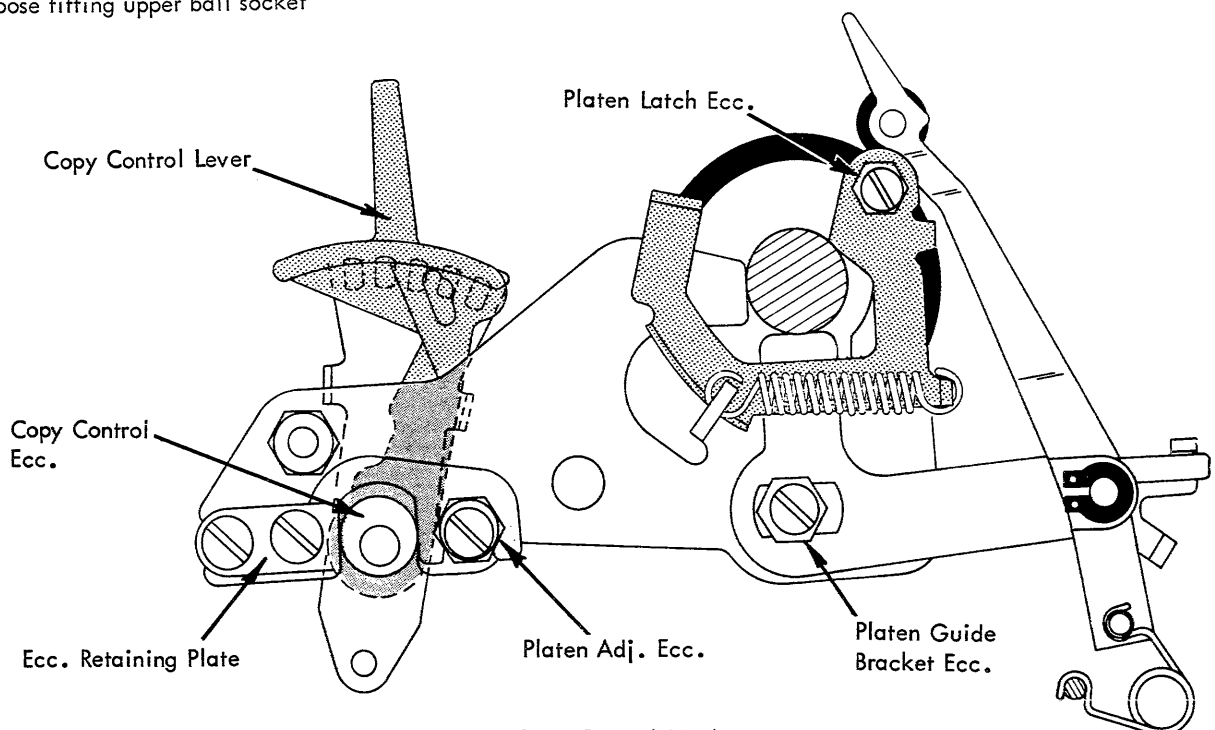
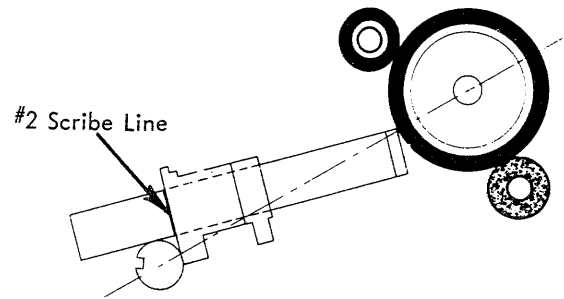

FIGURE 88. Copy Control Mechanism
FIGURE 90. Front to Rear Platen Adjustment
- 1. Copy Control Lever - With the copy control lever detented in the forward position, the high points of the eccentrics should be vertical (Fig. 88). Adjust the copy control lever on the shaft to satisfy this condition.
2. Eccentric Retaining Plates - For maximum efficiency of the copy control eccentrics, adjust the plate on each side of the machine so that no front to rear play exists between the eccentrics and the retaining plates (Fig. 88). Be sure that no binds exist.
3. Platen Latches - Adjust the platen latch eccentrics with the high part down so that the platen is held firmly in position vertically and horizontally (Fig. 88). The latches should latch and unlatch freely with the feed rolls released.
Adjust the platen guide bracket eccentrics to obtain this condition (Fig. 88). The high part of the eccentrics should be kept to the rear. It is necessary to remove the deflector and front feed rolls when checking the adjustment with the Hoovermeter.
- b. Platen Front to Rear - With the head of the Hoovermeter set at the #2 scribe line, the tool should just span the distance between the platen and the print shaft as illustrated in Fig. 90. Adjust the platen adjusting eccentrics to obtain this condition (Fig. 88).